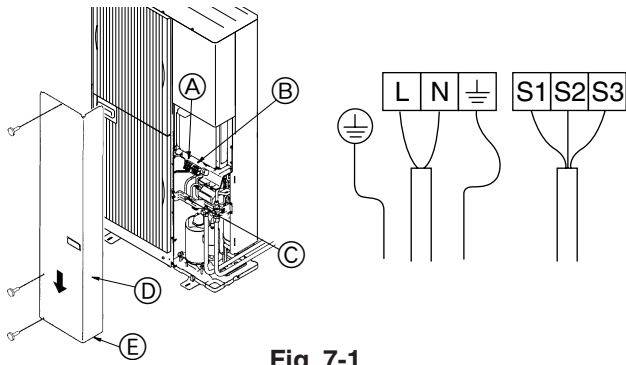

Fig. 7-1
### 7.1. Outdoor unit (Fig. 7-1)
- ① Remove the service panel.
- ② Wire the cables referring to the Fig. 7-1.